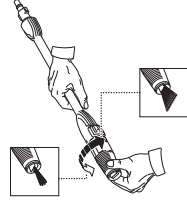

Fig. 11
4. Turn the vario nozzle (19) to adjust the required setting. Use the fan spray to clean wooden decks, vehicles, etc. When cleaning always start with the fan spray and hold the lance at least 30 cm away from the surface being cleaned to avoid damaging it. Use the pin spray for maximum cleaning effect (Fig. 11).